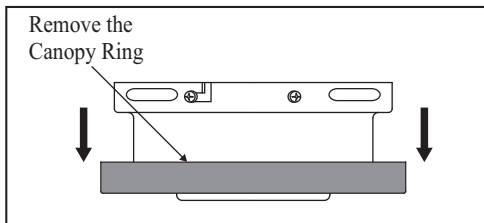

Figure 5
1. Remove the canopy ring from the canopy. (Figure 5)